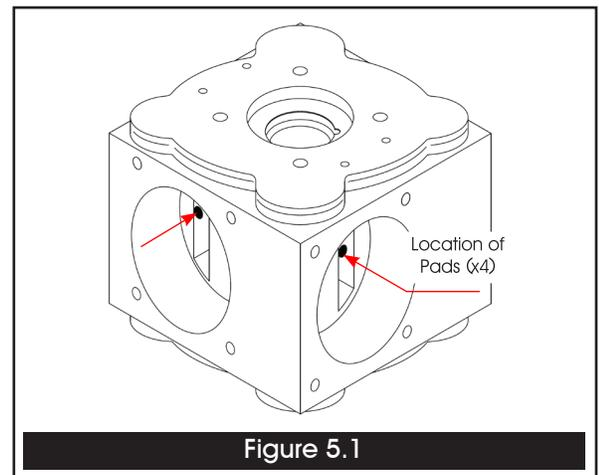

Figure 5.1
1. If you have removed the pads (#2), push them back into their holes (Figure 5.1).